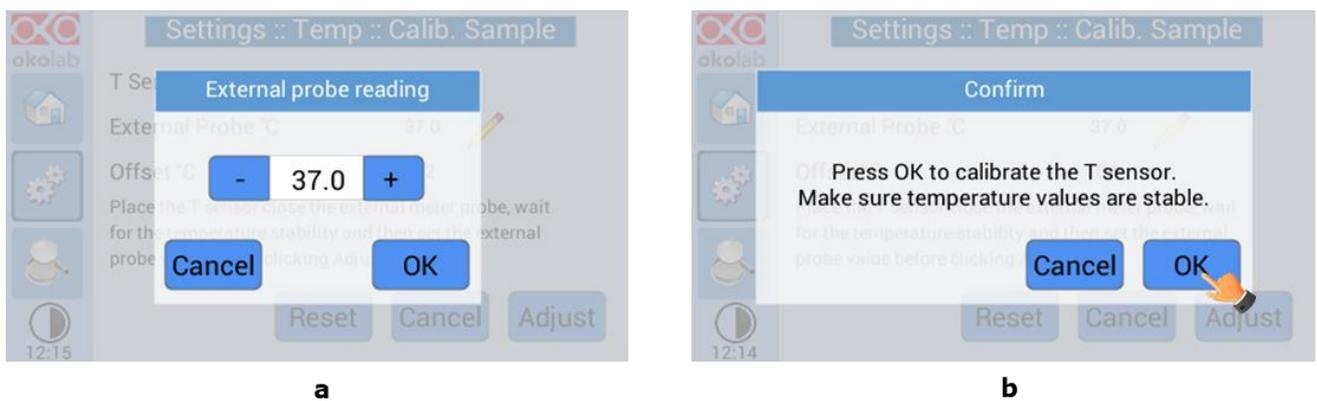

Figure 33. External probe temperature and Offset adjustment
5. Lastly, press OK after inserting the temperature value, followed by the Adjust option in Figure 33 a and Figure 33 b.